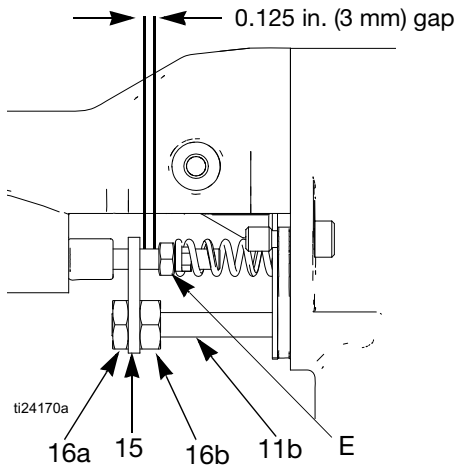

FIG. 28. Actuator Arm Adjustment
2. Remove the air cap, see **Air Cap/Nozzle Replacement on page 42**. Remove the gun shroud (26).
3. Remove the jam nut (16) and actuator arm (15) and adjustment nut (16). See FIGURE 28.
2. Remove the air cap, see **Air Cap/Nozzle Replacement on page 42.** Remove the gun shroud (26).
3. Remove the jam nut (16), actuator arm (15), and adjustment nut (16). See FIGURE 28.
See FIGURE 28.
3. Remove the adjustment nuts (16a, 16b) and actuator arm (15). See FIGURE 28.